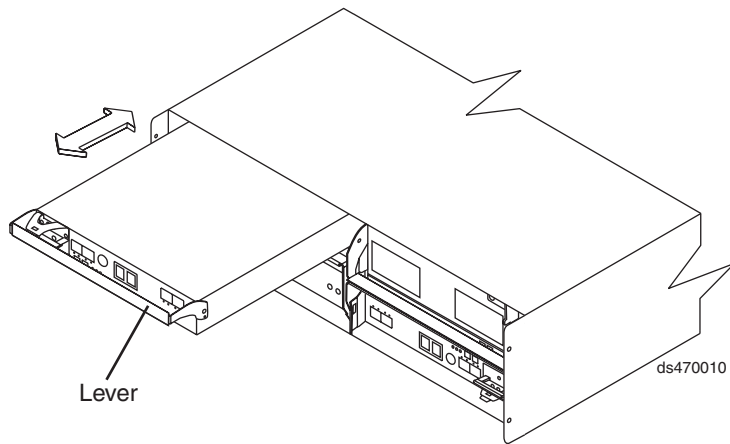

Figure 14. Removing and replacing a controller
2. Slowly pull the lever away from the chassis to remove the controller from the bay, as shown in Figure 14 on page 34.